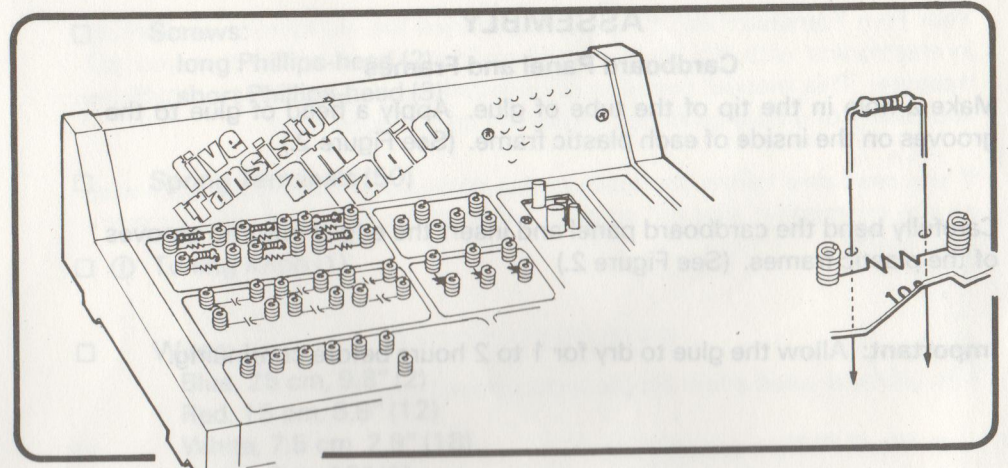

FIGURE 4
- Mount the resistor by bending its leads and inserting them, from the top of the cardboard panel, through the holes next to schematic symbol (See Figure 4.).